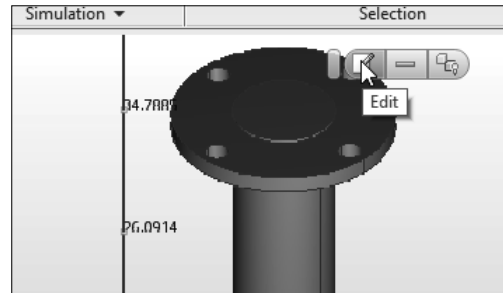

Figure-24. Context Toolbar for Boundary Condition
- After activating **Boundary Conditions** tool from **Setup Tasks** panel, left-click on the surface to which you want to apply boundary conditions. The **Context Toolbar** will be displayed; refer to Figure-24.